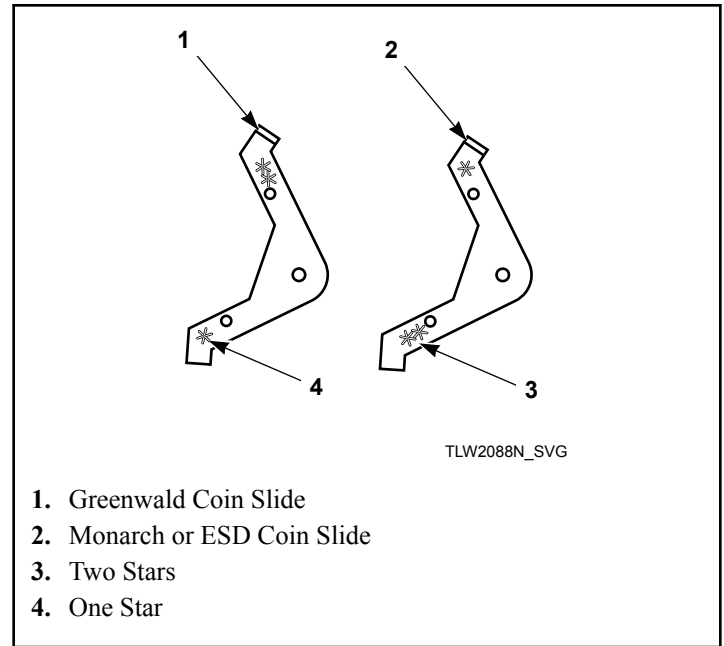

Figure 13
- If installing a Greenwald coin slide, position extension lever (to be installed on extension bracket) with arm that has one star facing down. Refer to *Figure 13*.
- If installing a Monarch or ESD coin slide, position lever with arm that has two stars facing down. Refer to *Figure 13*.